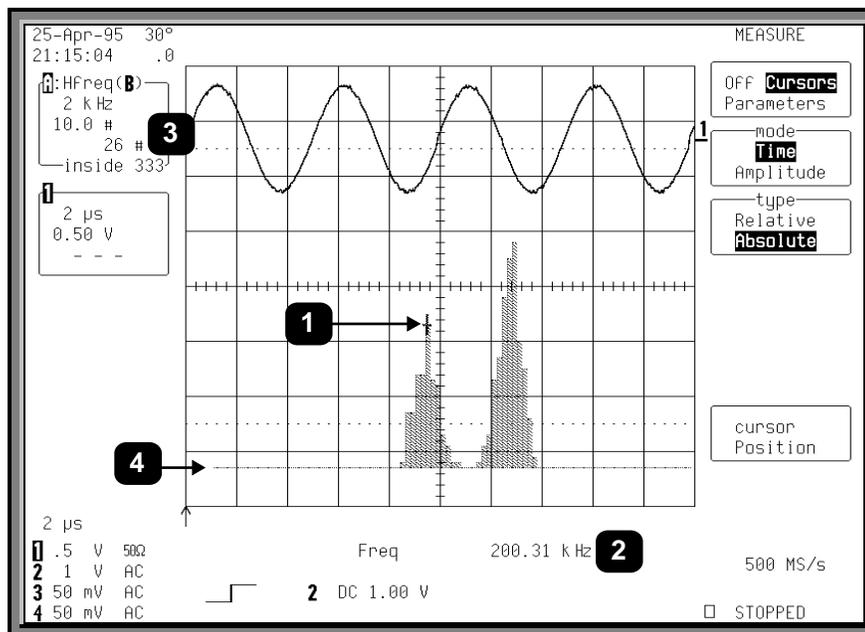

Figure 2.9
Cursors are useful for determining the value and population of selected bins. Figure 2.9 shows an absolute time cursor (Item ❶) positioned on a selected histogram bin. The value of the bin (Item ❷) and the population of the bin (Item ❸) are also shown.